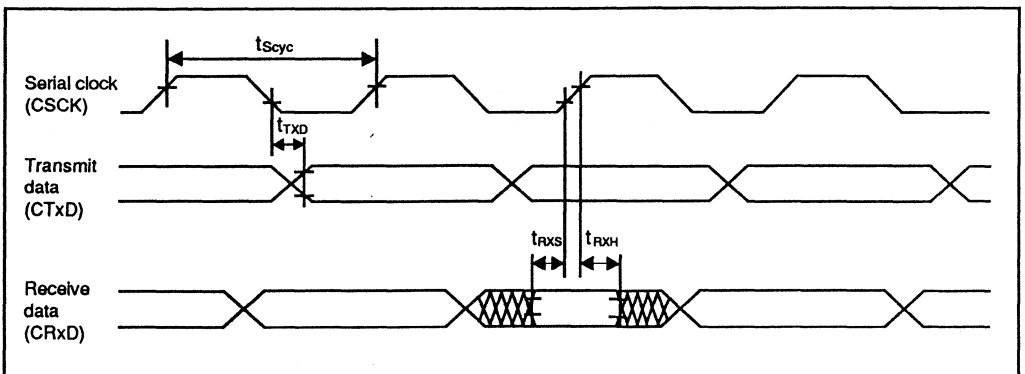

Figure 17-17. SCI Input/Output Timing (Synchronous Mode)
17.3.6 SCI Timing	Figures 17-17 to 17-18